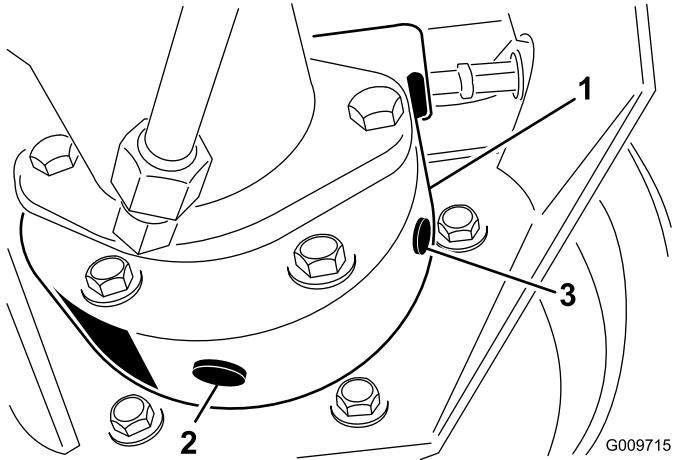

Figure 49
3. Place a drain pan under the brake housing, remove the drain plug, and allow the oil to drain (Figure 49).